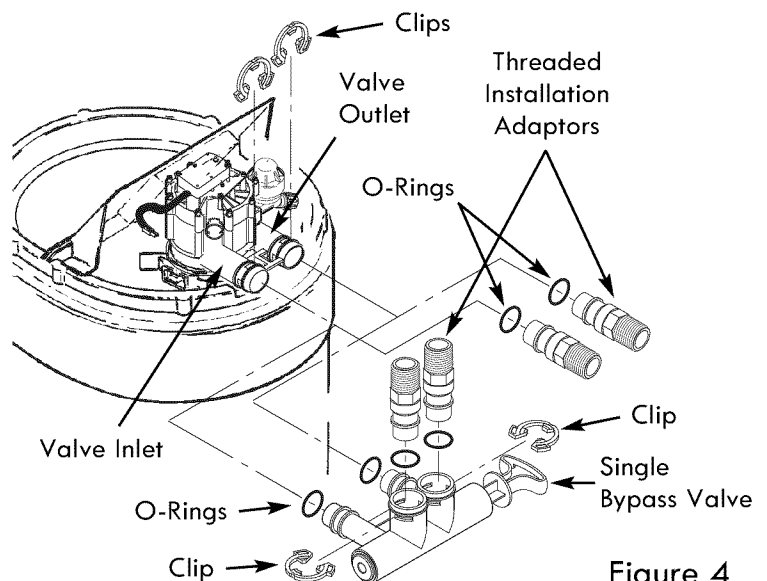
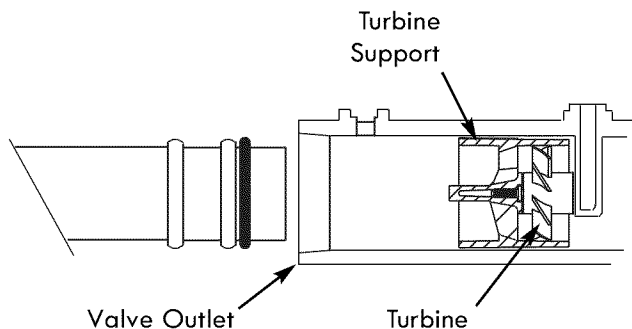

Figure 4
Figure 5
5. Visually check and remove any foreign materials from the valve inlet and outlet ports (see Fig. 4). Carefully remove the two large plastic clips (you will use them). Check to be sure the turbine and support are firmly in place (see Fig. 5).